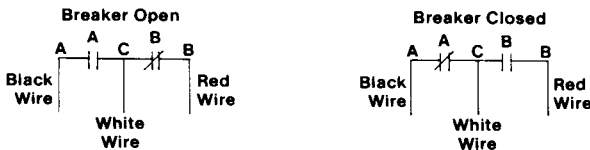

Fig. 7
8. Check function of auxiliary switch(es) by placing a continuity tester or equivalent device across switch contact leads. See Fig. 7.